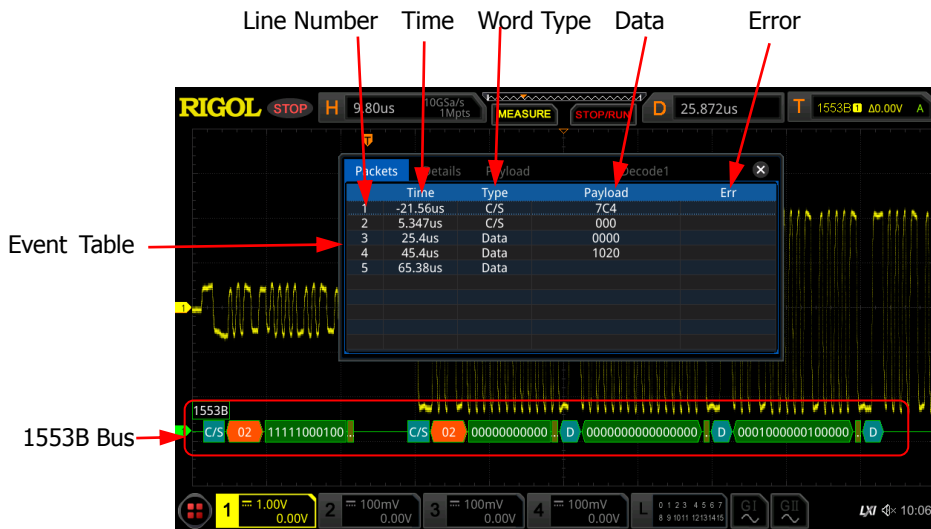

Figure 12-15 1553B Decoding Event Table
- Open or close the event table: Press **Event Table** continuously to enable or disable the event table. When you enable the event table, the following figure is displayed, as shown in Figure 12-15. You can also enable the touch screen to tap the icon  at the upper-right corner of the table to close the event table.